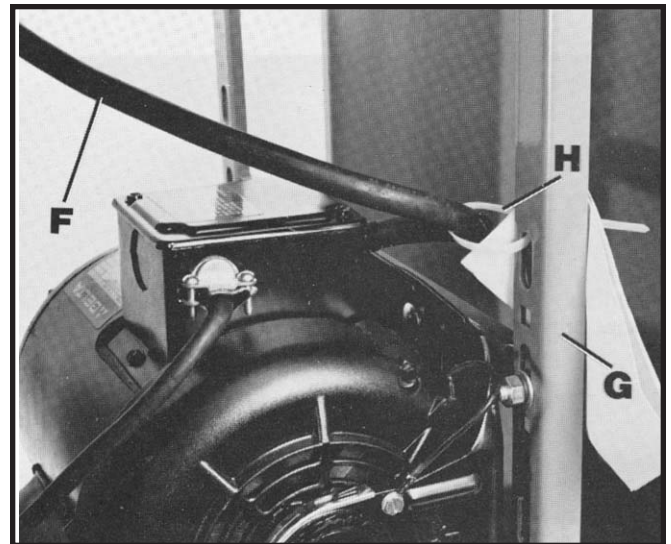
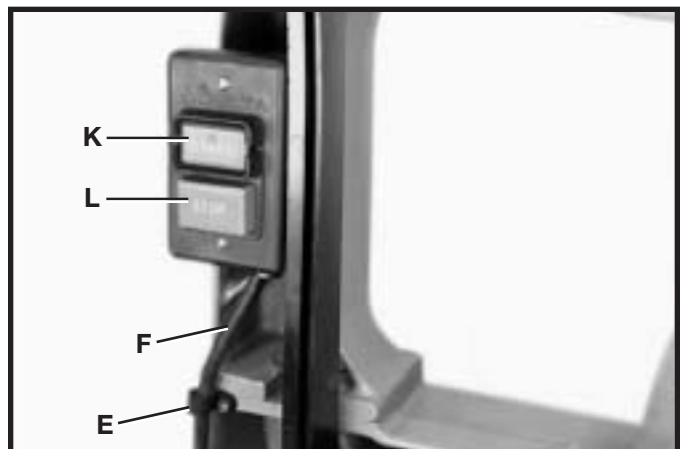

Fig. 7
Fig. 12
2. CAUTION: THE ON/OFF SWITCH-TO-MOTOR CORD (F) FIG. 7, IS TIED TO VERTICAL MOUNTING POST (G) OPPOSITE THE MOTOR PULLEY. THIS CABLE TIE (H) PREVENTS THE SWITCH-TO-MOTOR CORD (F), FROM CONTACTING THE BELT OR MOTOR PULLEY DURING OPERATION. IMPORTANT: DO NOT REMOVE THIS CABLE TIE UNLESS YOU ARE USING THE ACCESSORY #28-984 HEIGHT ATTACHMENT WITH THE BAND SAW.
7. Insert switch cord (F) Fig. 12, into clamp (E) which was removed in **STEP 6**, and fasten switch cord (F) to band saw as shown. **IMPORTANT: CHECK AND MAKE CERTAIN THE ON/OFF SWITCH-TO-MOTOR CORD (F) FIG. 7, IS NOT CONTACTING MOTOR PULLEY OR BELT. ADJUST CORD (F) FIG. 7, IF NECESSARY, THEN TIGHTEN CABLE TIE (H).**
To start the saw, press the "START" button (K) Fig. 12. To stop the saw, press the "STOP" button (L) Fig. 12.